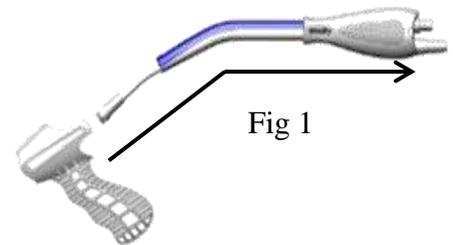

Fig 1
3. To attach the optional pistol grip, slide the pistol grip over the distal tip and slide it proximally over the handle as shown until it clicks into place. (Fig 1)